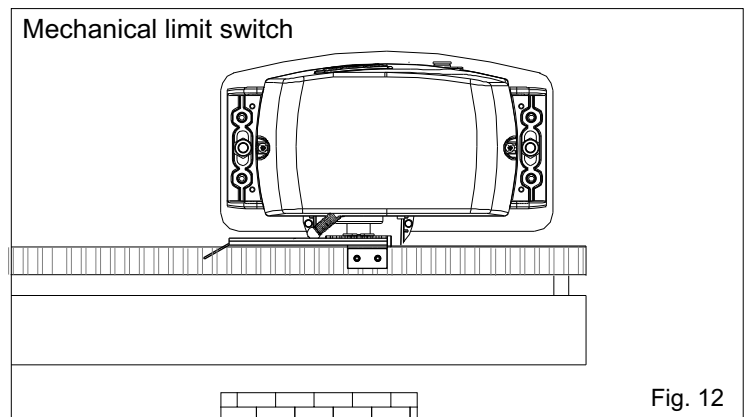
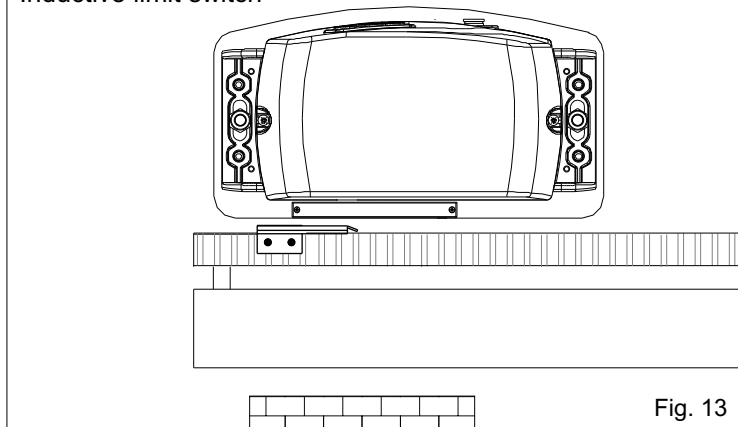

Fig. 12
Fig. 13
- Place the small plate on the gear rack so that the limit switch is (small lever in case of mechanical limit switch (Fig. 12); small pointers placed on the upper part in case of inductive limit switch (Fig. 13)) in correspondence of point X which is placed 50 mm from the folded side of the small plate (Fig. 14) and fix it with the delivered screws (Fig. 15 - Fig. 16).